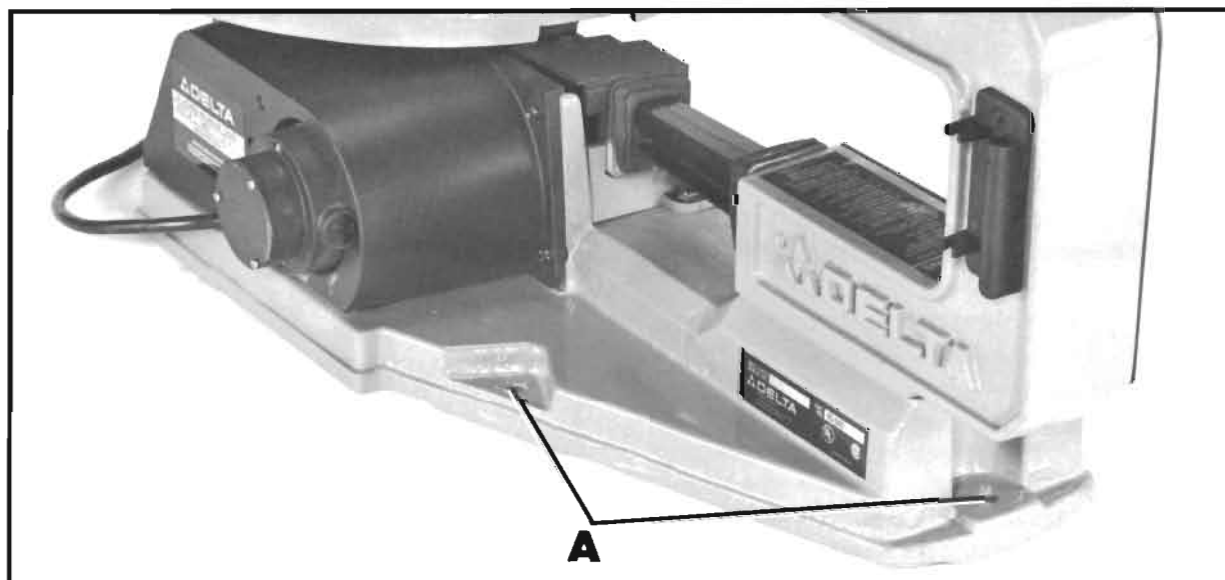

Fig. 7
Your scroll saw **MUST** be securely fastened to a stand or workbench using the three mounting holes in the base of the saw, two of which are shown at (A) Fig. 7.